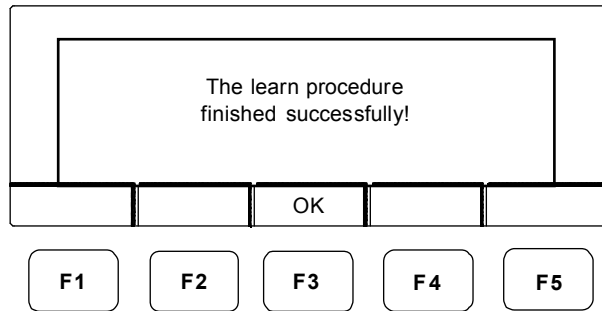

Figure 13-2.
After the learn function has been completed, one of the three following screens displays (Figures 13-2, 13-3, and 13-4).
4. When the learn cycle is complete, one of the learn results screens displays (Figures 13-2, 13-3, or 13-4). If the result was unsuccessful, repeat this procedure.